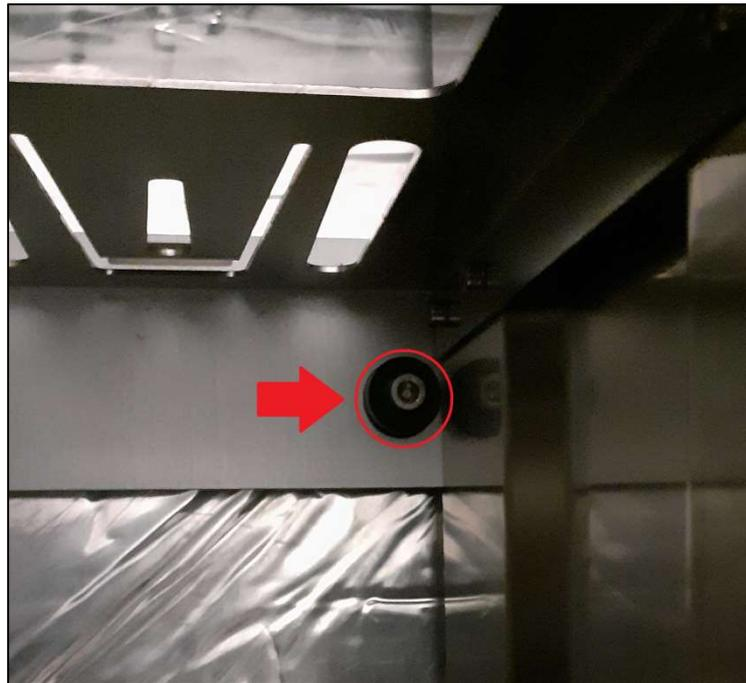

Figure 7: Fuse Box Shelf
- The fuse in the box rule (Figure 7) must be removed by Allen key